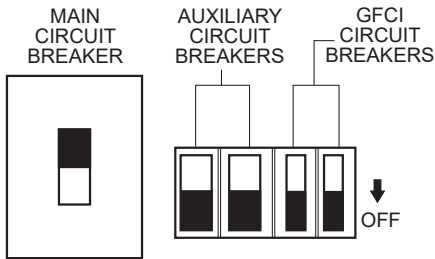

Figure 40. Main, Aux. and GFCI Circuit Breakers (OFF)
- Place the **main, GFCI, and aux.** circuit breakers (Figure 40) in the **OFF** position prior to starting the engine.